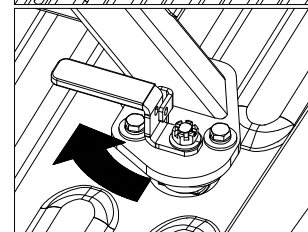

FIGURE C2:
3. Once the base is in place, turn each of the latch handles as shown in figure C2. It is critical that the base be drawn firmly down onto the attachment points. You should feel some resistance while turning the handles as the base is drawn down. If any of the handles will not close or if they rotate freely, the tension on the latch handles will need to be adjusted.